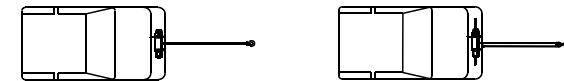

figure 2
1. Stop the winch when motor does not rotate. Overload will damage the electric winch and the wire rope and cause other unsafety. When the pulling force is over-loaded by $2/3$, it's best to use the pulley block. The use of double-line wire rope (See figure 2) can reduce the load on the winch and wire rope by 50%. If you want to attach the winch to the back of the vehicle, you should choose a part that can bear the load. The engine of the vehicle should keep running, so that it can reduce the electric power consumption of the storage battery and meanwhile maximize the pulling force and speed of the winch. The battery storage may be too weak to restart the engine, on condition that the vehicle engine's power is off.